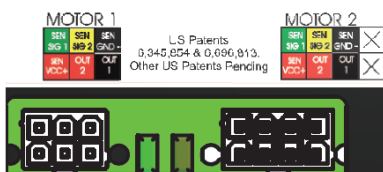

Figure 12A Green and Red LED's on control box
- The **FAULT CODE LED** (**FIGURE 12, page 4**) on the rocker switch will flash **RED** a number of times corresponding to the number of red flashes on the control box (**FIGURE 12A**). Refer to the **TROUBLESHOOTING** chart on **page 6** to best determine what caused the fault.
- The **MOTOR LED** (**FIGURE 12A**) on the control box will flash **GREEN** a number of times corresponding to which motor had the associated fault.
- For example: if you are seeing two (2) **GREEN** flashes and four (4) **RED** flashes, it means that there is a motor fault on motor 2.